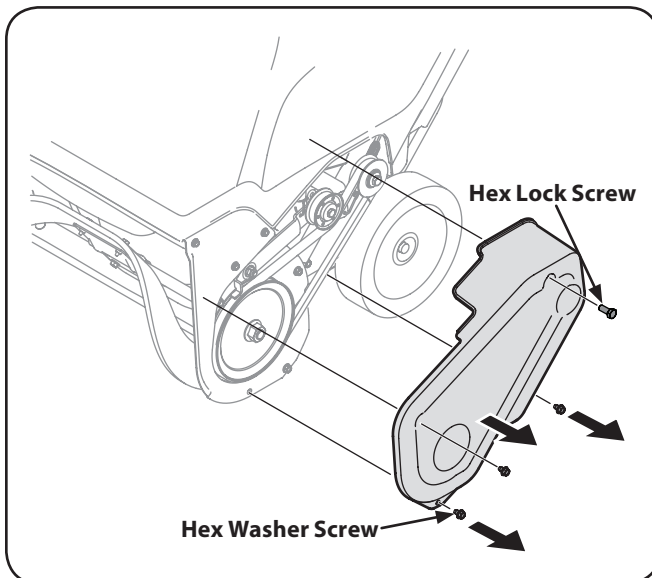

Figure 7-1
4. Remove the belt cover by removing the three hex washer screws and one hex lock screw that secure it to the frame. See Fig. 7-1.